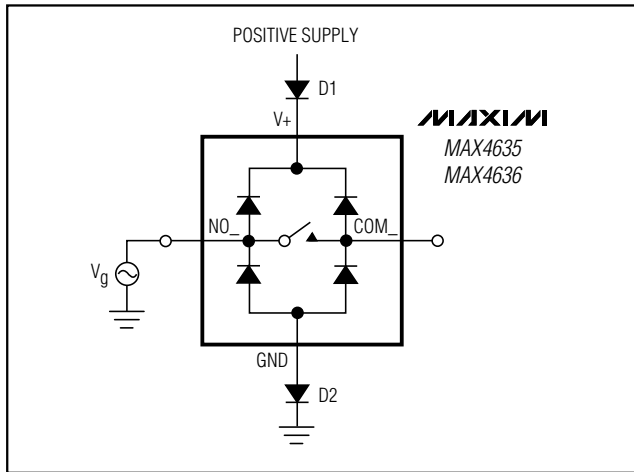

Figure 5. Overvoltage Protection Using Two External Blocking Diodes
**Caution: Do not exceed the absolute maximum ratings because stresses beyond the listed ratings may cause permanent damage to the device.** Proper power-supply sequencing is recommended for all CMOS devices. Always apply V+ before applying analog signals, especially if the analog signal is not current limited. If this sequencing is not possible, and if the analog inputs are not current limited to less than 30mA, add a small-signal diode (D1) as shown in Figure 5. If the analog signal can dip below GND, add D2. Adding protection diodes reduces the analog range to a diode drop (about 0.7V) below V+ (for D1), and a diode drop above ground (for D2).
On-resistance increases slightly at low supply voltages. Maximum supply voltage (V+) must not exceed +6V. Adding protection diode D2 causes the logic threshold to be shifted relative to GND. Protection diodes D1 and D2 also protect against some overvoltage situations. With Figure 5's circuit, if the supply voltage is below the absolute maximum rating, and if a fault voltage up to the absolute maximum rating is applied to an analog signal pin, no damage results.